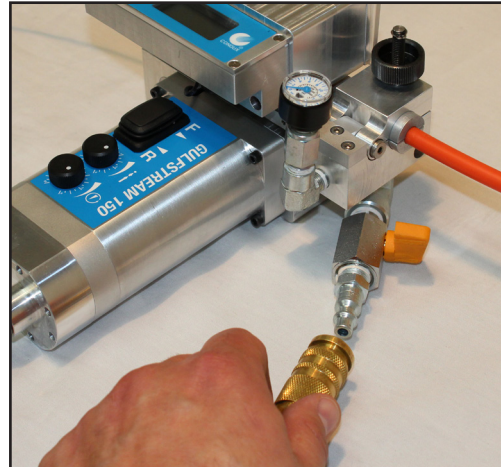

Figure 19. Depressurize Air Block
2. Remove Air Hose from GS150 (See Figure 19).